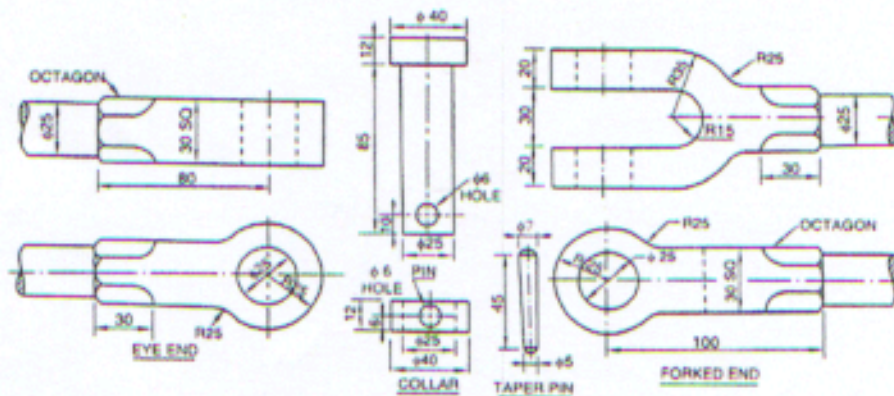

Figure 3
- a) Figure 3 shows the detailed drawings of a knuckle joint in first angle projection; draw the front view of the assembly. [14]